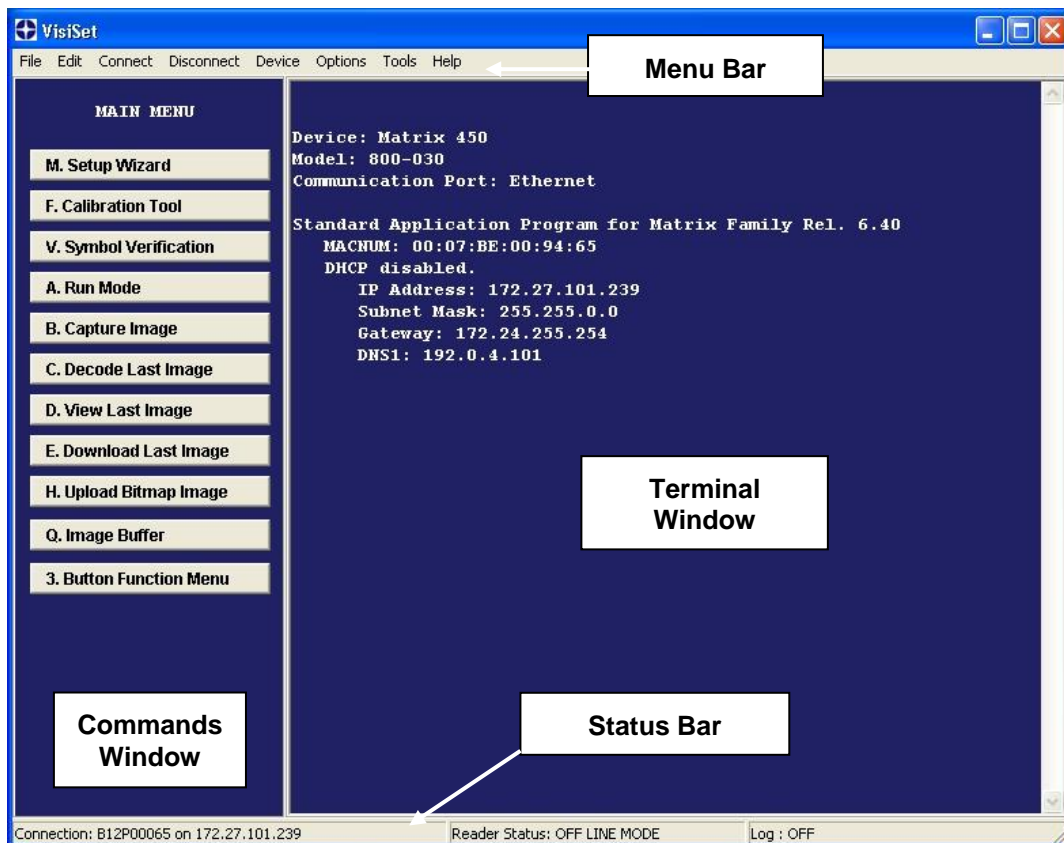

Figure 99 - Main Window
Upon connection, Matrix 450™ exits Run Mode and displays the Main Menu on VisiSet™ with all the commands necessary to monitor your reader's performance. You can select these commands using the mouse or by pressing the key corresponding to the letter shown on the button. See Figure 99.
The **Options** item from the VisiSet™ menu (see Figure 99) presents a window allowing you to configure:
6. Close the Parameter Setup window and press **Disconnect** on the VisiSet™ menu bar (see Figure 99) or launch **Run Mode** from the VisiSet™ Main menu.